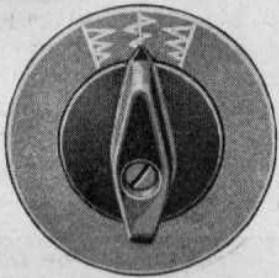
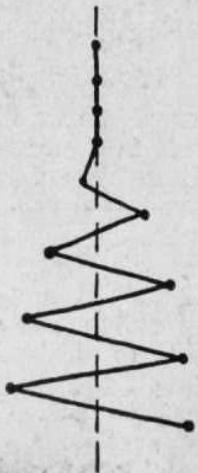

FIG. 22
FIG. 23
Important Note: When using the plain sewing needle plate, the starting position knob (3), fig. 1 and fig. 22, must be at the "central" position as shown in that picture. For further details concerning the starting position knob, refer to page 13.
sition knob, fig. 22, is set in the "central" position of the dial as seen on the illustration. With the knob in this position, the machine will make zig-zag stitches which are central relative to the straight seam. See fig. 23.